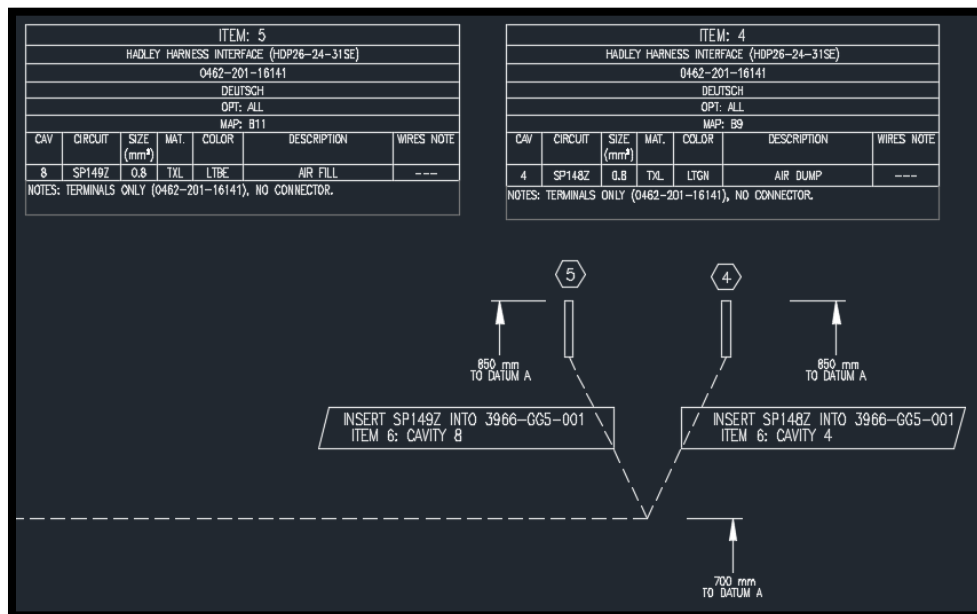

FIG. 5-2
13. Insert Deutsch Socket, circuit SP148Z (LTGN-18GA) into Hadley RV Interface (Item #6) cavity 4. Refer to FIG. 5-1 and FIG. 5-2.